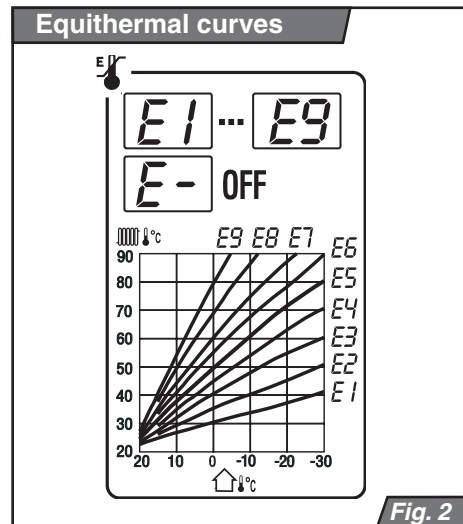

Fig. 2
Press the **MODE** button – letter E with the characters (-) and (1) through to (9) attached will appear on the display. By pressing the **←** **→** buttons, select the required equithermal curve. The curve's slope grows with the growing number (E1 < E9) – see Fig. 2.